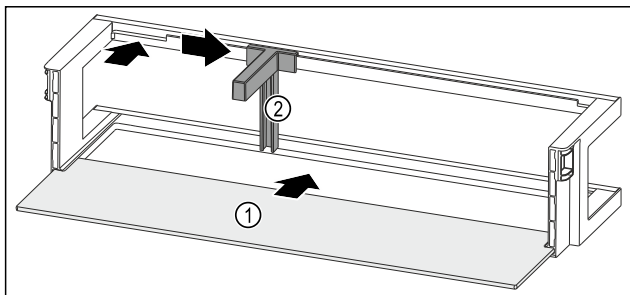

Fig. 240 Door rack with shelf
- ▶ Push the shelf Fig. 240 (1) into the side recesses.
- ▶ Insert the bottle holder Fig. 240 (2) in the recess.
- ▶ Push the bottle holder Fig. 240 (2) to the desired position to the side.